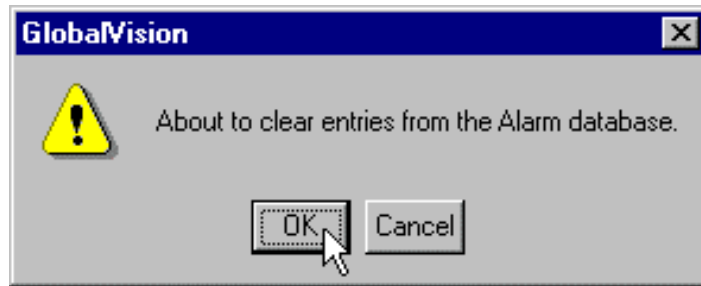

Figure 100 - Clear Alarm Database message box
4. Choose **OK** in the CLEAR ALARM DATABASE message box to clear the entries in the database. The alarm types will be cleared from the ALARM DATABASE. See Figure 100.
2. Choose **OK** in the CLEAR ALARM DATABASE message box to clear the entries in the database. All alarm types will be cleared from the ALARM DATABASE. See Figure 100.